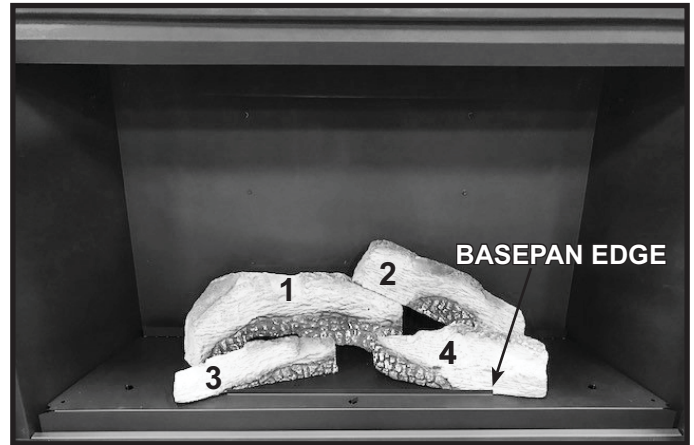

Figure 7. Install Log #4
- LOG #4:** Locate and install the Log #4 by installing the “left” end of the log over the right log pin and pressing “down” to engage the log pin. The face of the log should contact the base pan edge. See Figure 7.